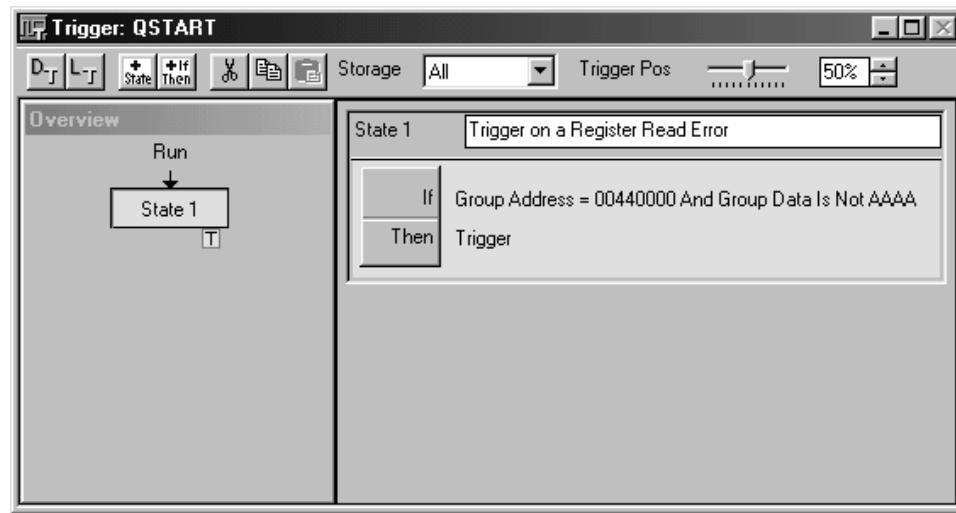

Figure 3–13: Trigger window for Exercise 3
1. To understand how the logic analyzer triggered on the faulty data, view the setups in the Trigger window (see Figure 3–13).